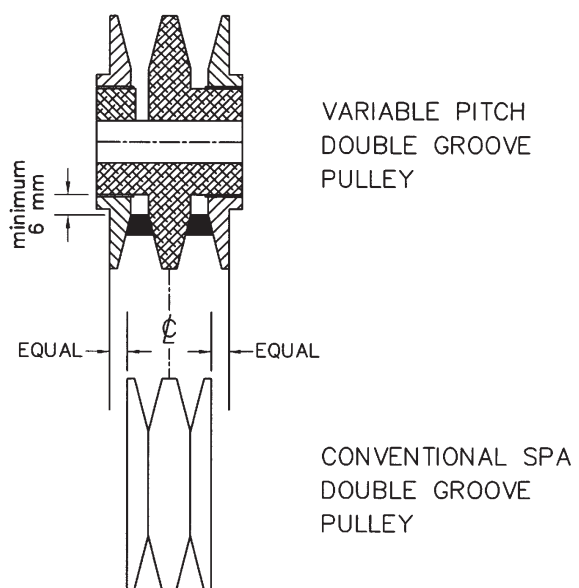

FIG.3
8. Re-align the belts using the pulley faces as a guide; refer note and figure 3 below in troubleshooting guide.